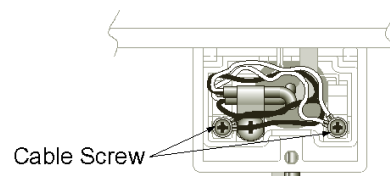

Fig.4
12. Loosen 2 screws on the terminals for controls and connect the cable (polarity is unimportant, either color can be connected to either terminal). When connecting more than 2 cables, connect them in parallel. (Fig. 4)